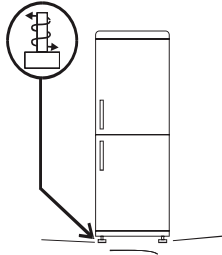

Fig.3
**3 Adjust the feet to ensure the stability of the appliance and prevent vibrations and noise (fig. 3). If the front part is higher than the rear, the door can be closed more easily.**